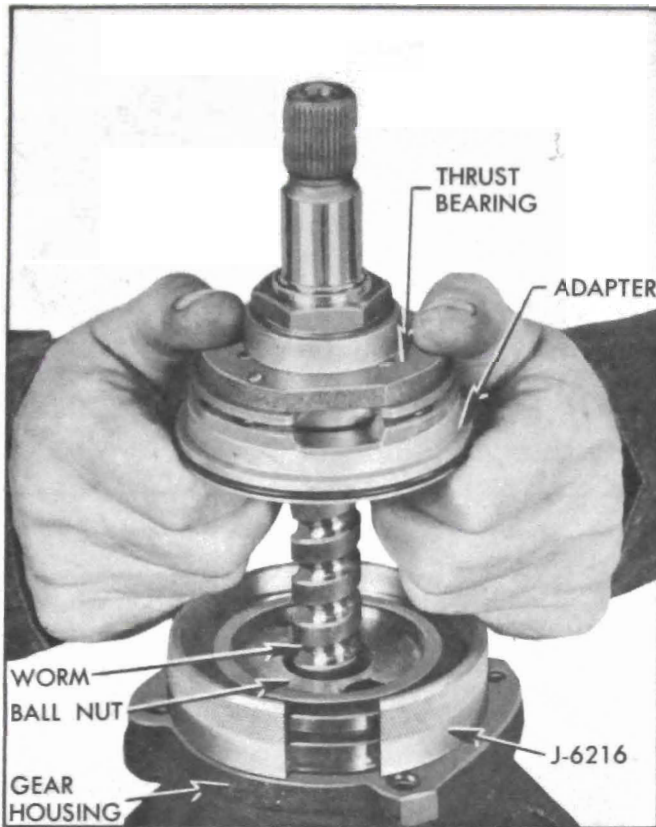

Figure 8-35—Installing Rack-Piston Assembly into Gear Housing
11. Install Piston Ring Compressor J 6216 and hold tightly against shoulder in housing. Then push the rack-piston assembly into the housing with rack-piston assembly toward end of worm until the piston rings are in the cylinder bore. See Figure 8-35.